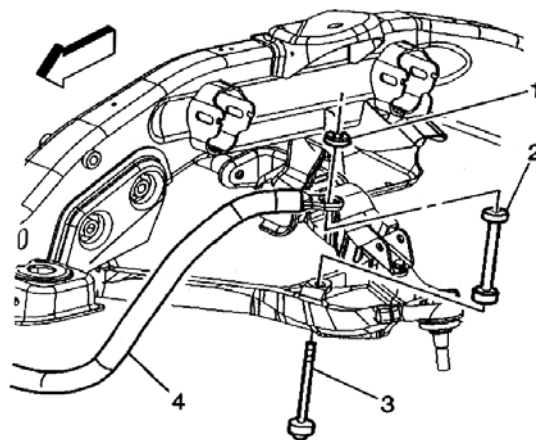

Fig. 7
6. Remove both anti-sway bar links, which connect the bar to lower control arms. **Fig. 7**